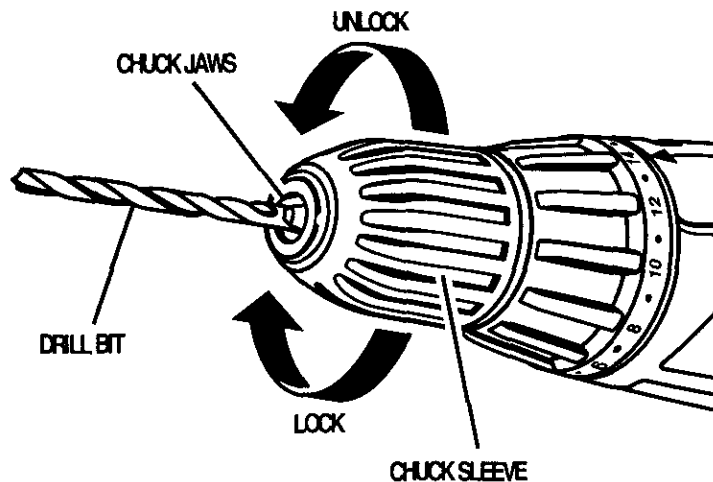

Fig. 3
See Figure 3.
- Insert drill bit into chuck the full length of the jaws as shown in Figure 3.